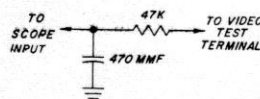

Fig. 10
7. Connect a scope through probe as shown in Fig. 10 across the diode load resistor R-220 (E point on I.F. plate to chassis ground), set to 3V peak-peak. Connect a VTVM across R-220, parallel to scope and set to -3V DC (USE CHASSIS GROUND — NOT PRINTED GROUND).